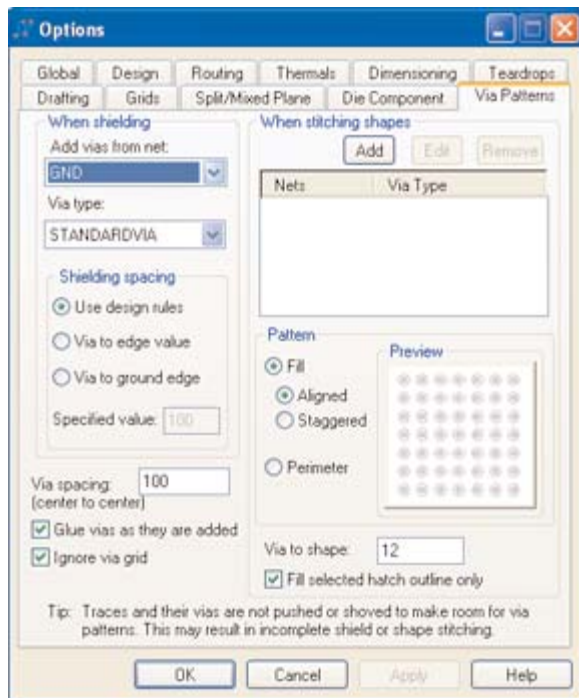

Figure 5.1.
- More (see Figure 5.1 and 5.2)